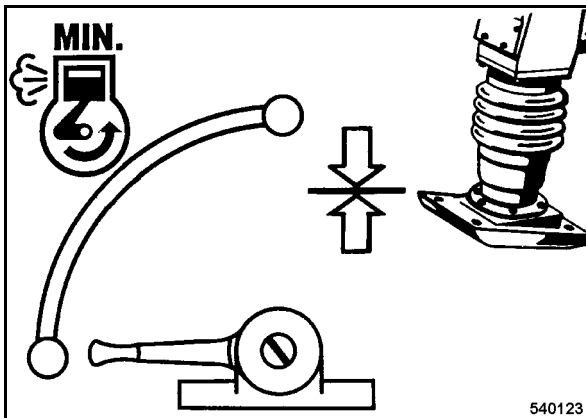

Fig. 67
- To read the idle speed set the throttle lever to position MIN (Fig. 67).